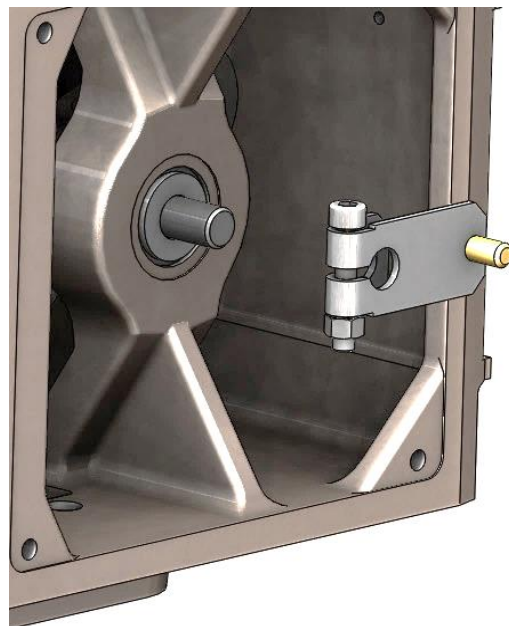

Figure 16: MaxFlo Take Off Arm
- 1 Slide the take-off arm onto the shaft. Insert the screw with the star washer through the take-off arm and add the second star washer and nut. Tighten the nut with a socket, so the arm is just snug on the shaft but still able to rotate. Tightening will occur after linkage is correctly oriented. Refer to Figure 16: MaxFlo Take Off Arm.